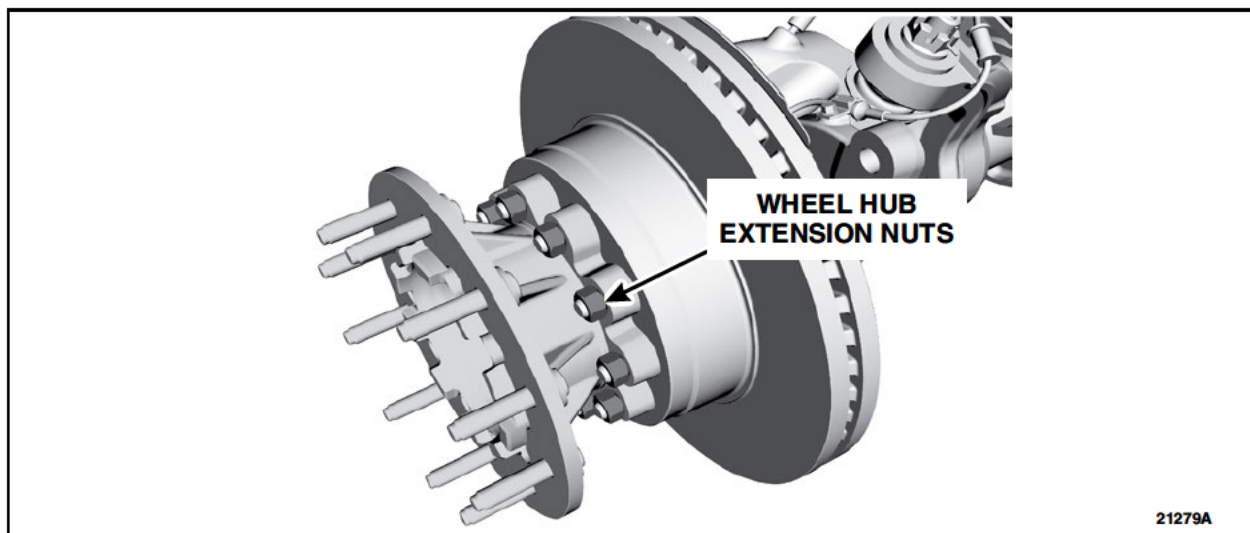

FIGURE 2
4. Torque the wheel hub extension nuts. See Figure 2.